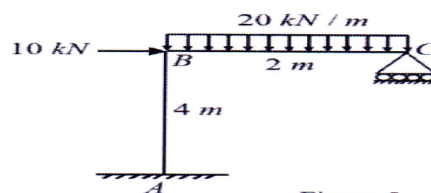

Figure 5
b) Determine the unknown joint displacements of the portal frame as shown in Figure 5 using stiffness matrix method. Take EI constant. [12]